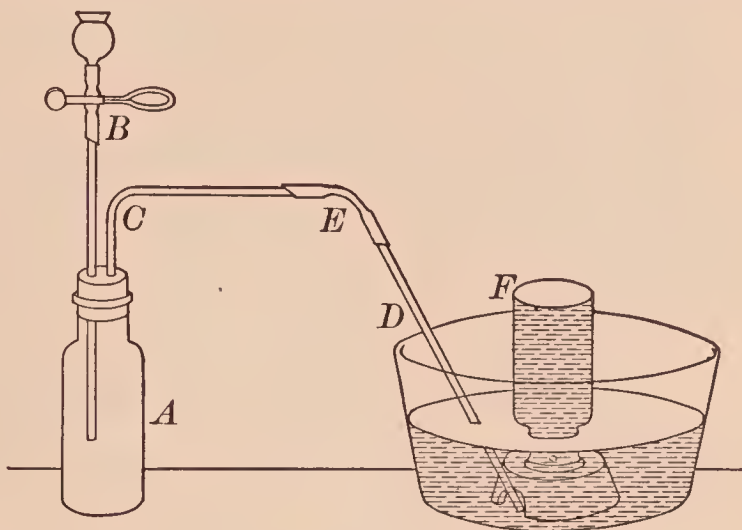

FIG. 50. — Apparatus for preparing nitric oxide
**APPARATUS.** — As in Fig. 50.
**I. Preparation (Nitric Oxide).** — Put 10 gm. of copper in the bottle *A* and arrange the apparatus to collect the gas over water (Fig. 50). Fill three bottles with water, and invert one of them in the trough. Have the others ready.